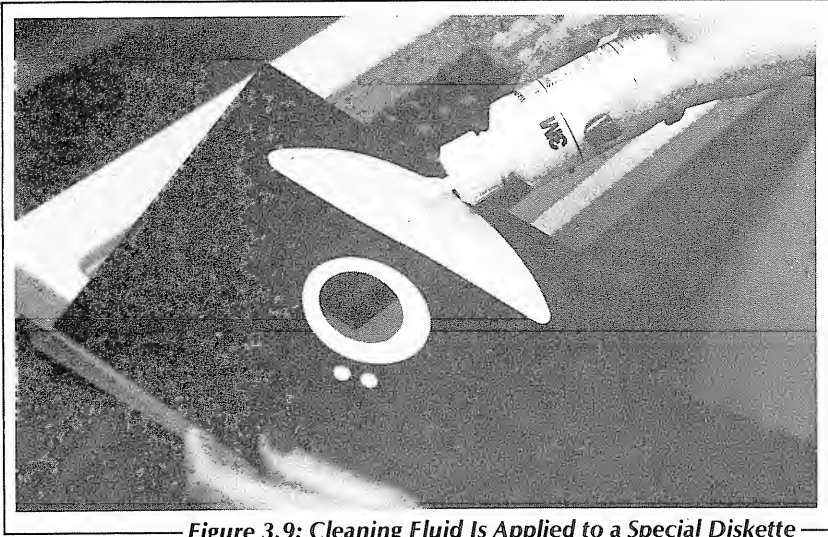

Figure 3.9: Cleaning Fluid Is Applied to a Special Diskette
Let's go through the steps involved in cleaning a read/write head using a kit. These steps are illustrated in Figures 3.9, 3.10 and 3.11. We will use a special head cleaning diskette coated with a special cleaning fabric.
Step 1: Saturate the cleaning fabric on the special diskette with the cleaning solution as shown in Figure 3.9.